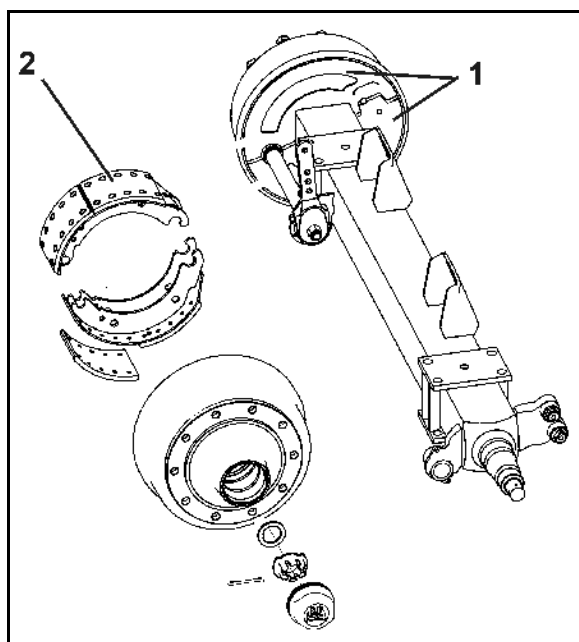

Fig. 87
1. Unscrew the two cover plates (Fig. 87/1) on the inside of the brake drum.
Dirt entering the drums may be deposited on the brake pads (Fig. 87/2) and thus appreciably reduce brake performance.